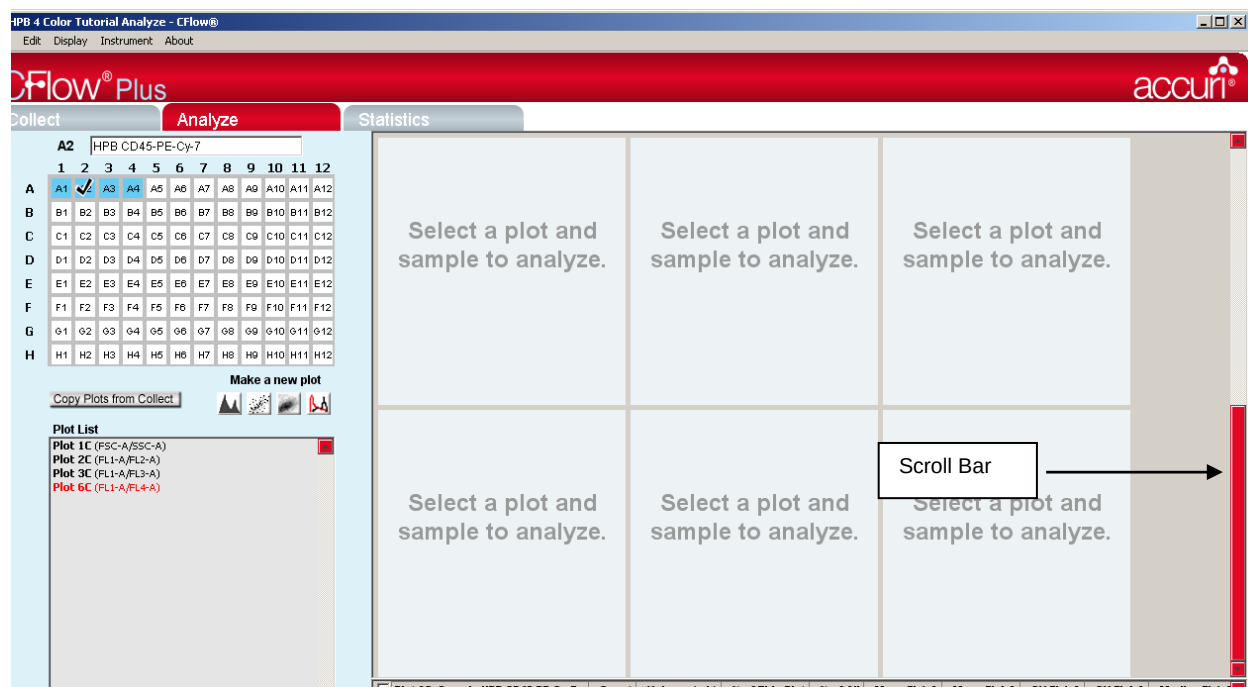

Figure 4-7 Analyze Tab view after scrolling down to empty plot corrals.
11. Use the Scroll Bar on the right hand side of the Analyze tab Workspace to scroll down, bringing six more plot corrals into view (Figure 4-7).